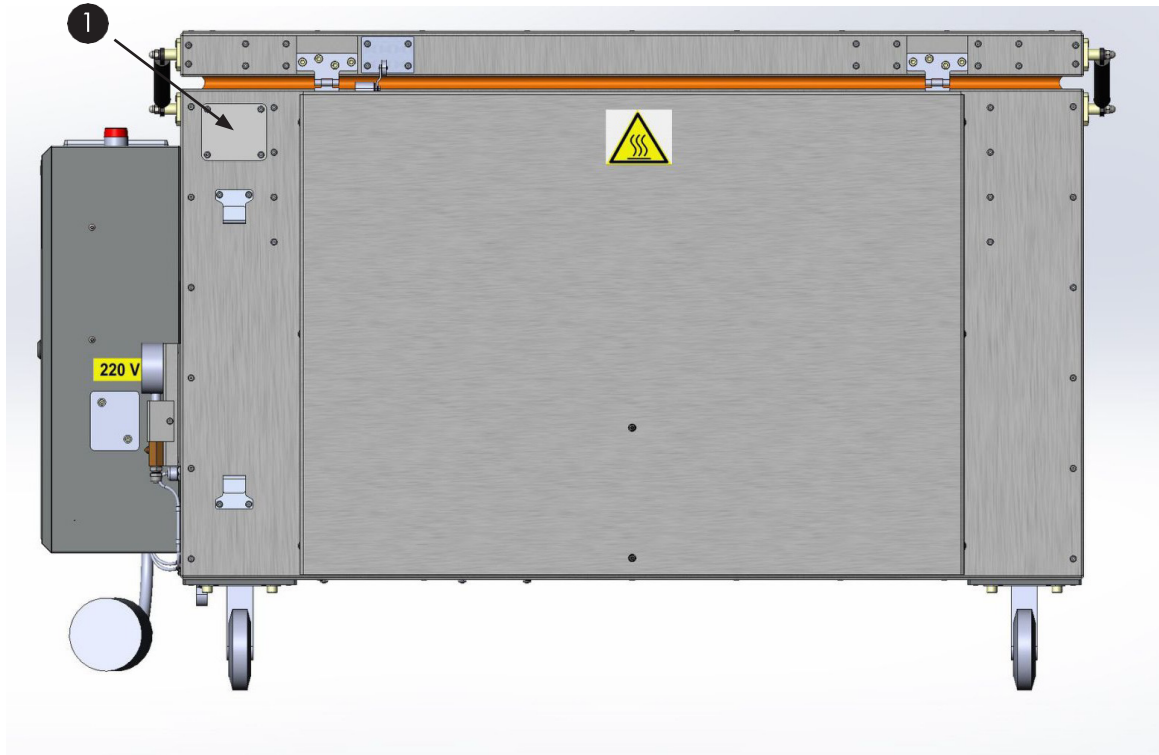

Figure 7. Nameplate Location
The nameplate is riveted to the rear of the Polymerization Oven; Figure 7, item 1